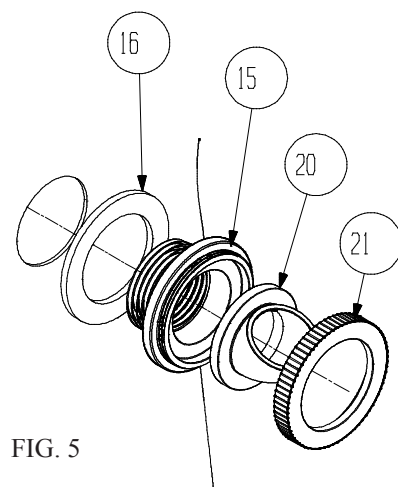

FIG. 5
- DIVERTER FITTING USE;** diverts direction of return water entering the pool, see part #20 FIG.5. You can adjust the fitting by loosening the LOCKING RING see part # 21 FIG 5. The DIVERTER FITTING can be used to help generate clockwise rotation of the pools water toward the SKIMMER intake opening area of your pools wall. To do so slightly loosen the LOCKING RING and rotate the DIVERTER FITTING upward pushing water horizontally under the waters surface pointing away from the SKIMMER Intake area. **DO NOT POINT** it directly toward the SKIMMER this will deeply decrease skimming and filtration. Tighten the LOCKING RING to hold the DIVERTER FITTING in the desired position you choose. You can position the DIVERTER FITTING downward later to assist in keeping sediment from building along the bottom of your pool.